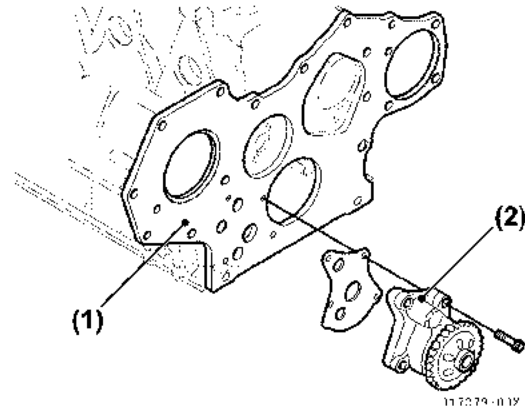

**Figure 5-46**
38. Remove the oil pan and spacer (**Figure 5-46**).
39. Remove the lubricating oil inlet line (Figure 5-46, (2)) and gasket (Figure 5-46, (7)).